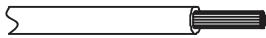

Fig. 26 — Stripping The Wire
2. Strip a suitable length of the insulation layer as shown in Fig. 26 below.